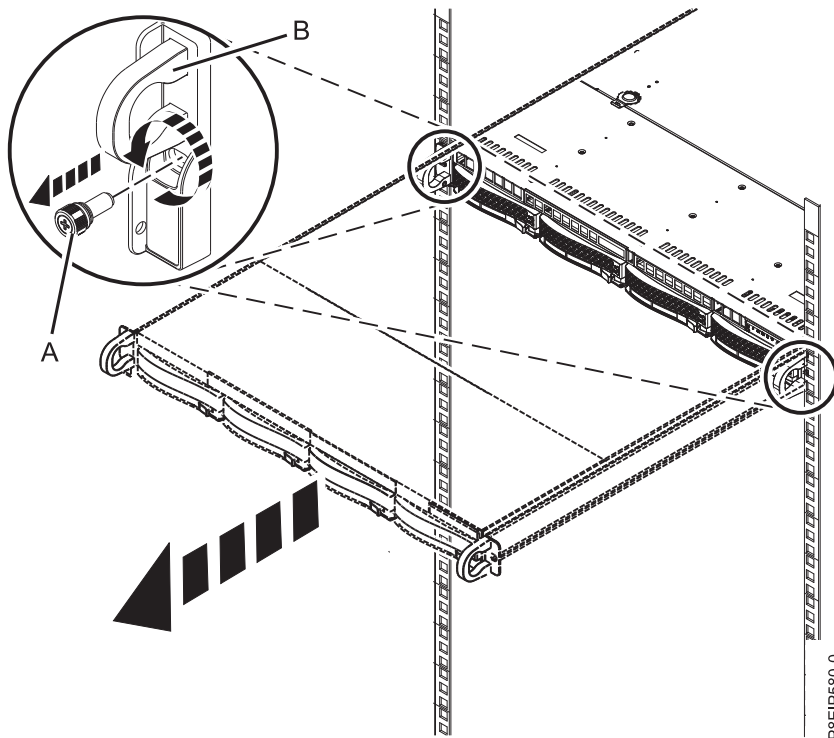

Figure 84. Removing the front screws and removing the system from the rack
2. Remove the front screws that secure the system to the rack from both sides of the system as shown in Figure 84.